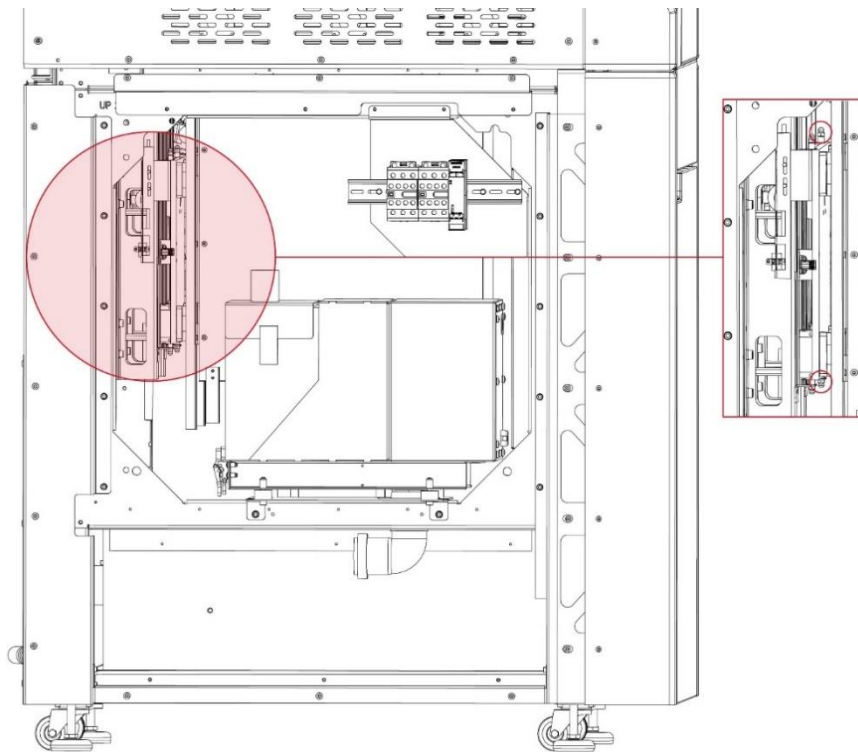

Fig. 112 Location of grease nipples - side view
13. Locate the upper right grease nipple (viewed from the front of the printer) as shown in Fig. 112